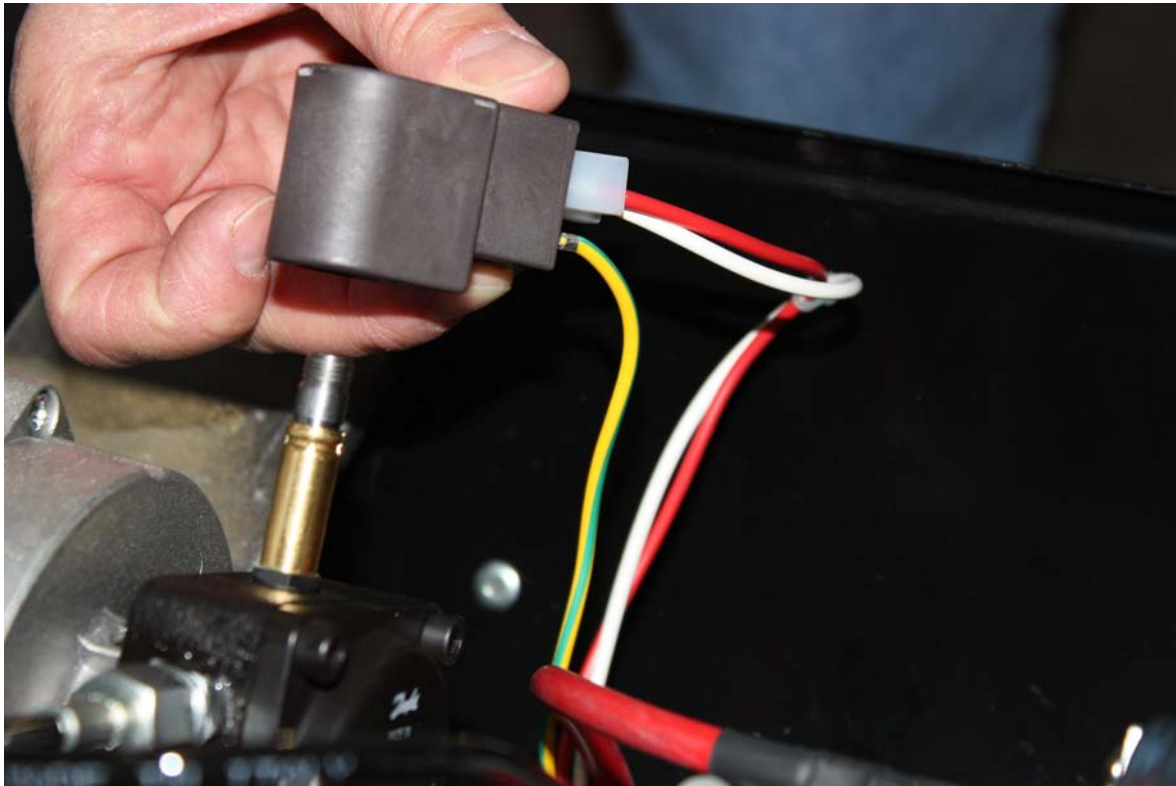

Figure 5-8 – Fuel Solenoid Installation
1. Install new fuel solenoid onto the fuel pump assembly (See Figure 5-8).